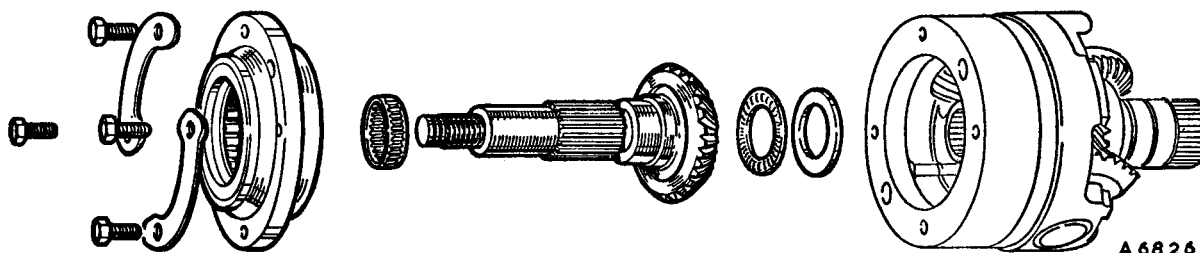

Fig. Fa.48
- 7. Pull out the first gear free-wheel assembly, input gear, Torrington thrust race, and washer (Fig. Fa.48).
- 8. a. Dismantling of the Mk. II gear train assembly is given below in items 9 to 15, with the reassembly sequence in items 20 to 32.
27. Assemble the bevel input gear with its Torrington needle thrust bearing and selective steel washer (see Fig. Fa.48).
28. Refit the one-way clutch to the gear train housing (Fig. Fa.48), tighten the securing bolts, and tap up the locking plate tabs.